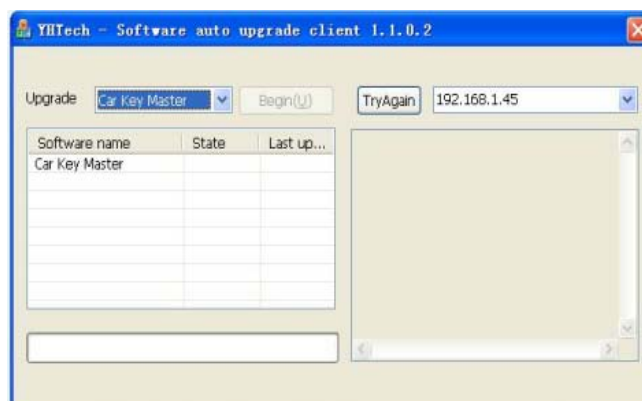

Figure 40
2. Make sure the IP address is the appointed one, and then click "TryAgain", an interface will appear as Figure 40.